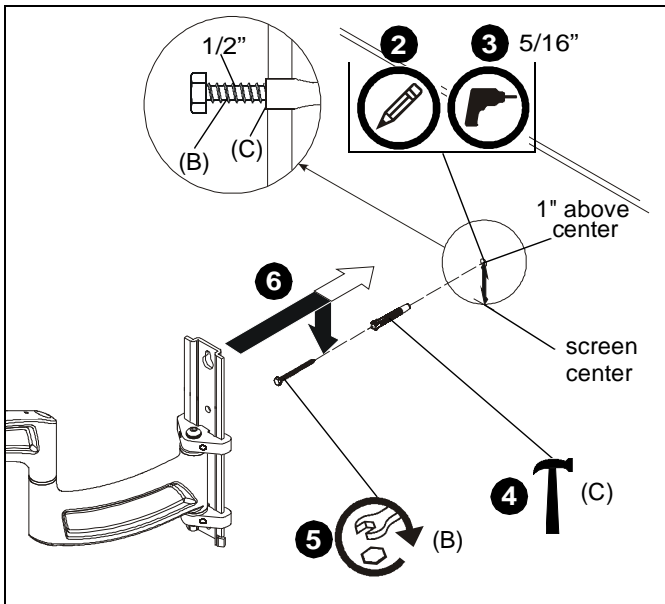

Figure 3
2. Measure 1" above desired center line and mark a hole at desired mounting location. (See Figure 3)
3. Drill one 5/16" diameter hole at location marked in Step 2 with a depth of 3 1/4". (See Figure 3)
4. Install one concrete anchor (C) into drilled hole. (See Figure 3)
5. Install one 1/4 x 2 1/2" lag bolt (B) into concrete anchor (C), leaving bolt hanging out 1/2" from the wall. (See Figure 3)
6. Hang arm assembly (Z) onto lag bolt (B) by latching key-shaped hole over top of bolt. (See Figure 3)